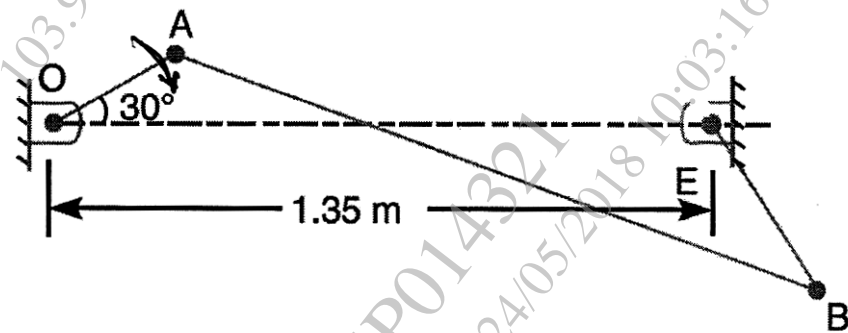

Fig. 2
6. (a) A mechanism as shown in Fig. 2 has the following dimensions;  $OA = 200$  mm,  $AB = 1500$  mm and  $BE = 400$  mm. If crank  $OA$  rotates uniformly at 120 rpm, find the angular velocity and angular acceleration of link  $AB$  and  $BE$ . [12]